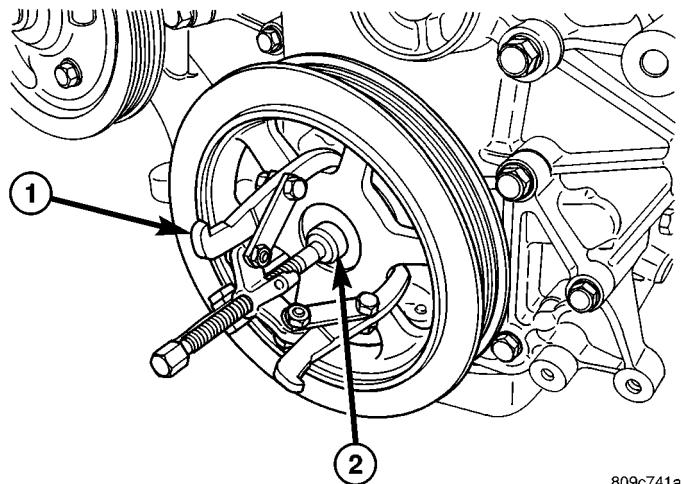

Fig. 84 Vibration Damper - Removal
- (1) Disconnect negative cable from battery.
- (2) Raise vehicle on hoist.
- (3) Remove the right front wheel and inner splash shield.
- (4) Remove the accessory drive belt. (Refer to 7 - COOLING/ACCESSORY DRIVE/DRIVE BELTS - REMOVAL)
- (5) Remove vibration damper bolt.
- (6) Insert Special Tool 8450 into crankshaft nose (Fig. 84).
- (7) Position 3-jaw puller Special Tool 1026 on damper as shown in (Fig. 84). Turn puller forcing screw until damper releases from crankshaft.
- (8) Remove the crankshaft vibration damper.